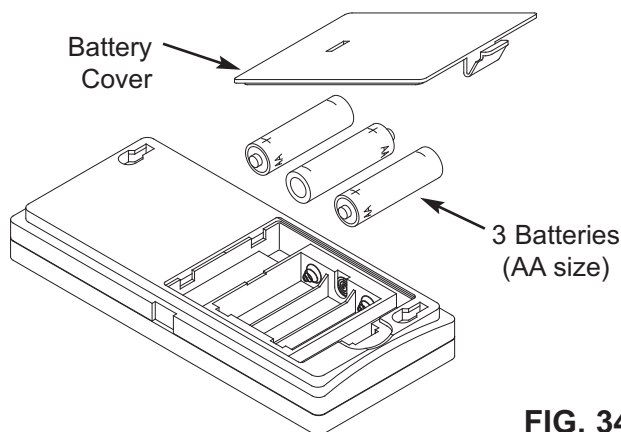

FIG. 34
2. Install three (3) AA size batteries, making sure that they are oriented to match the + and – markings inside the battery compartment (See Figure 34).